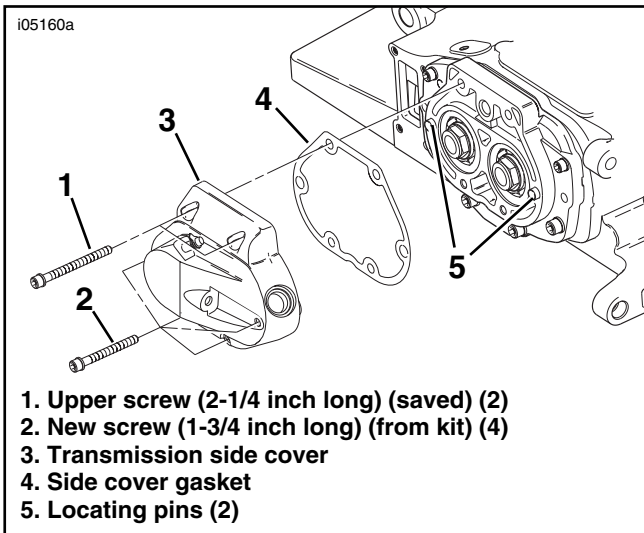

Figure 6. New Transmission Side Cover Installation
- Refer to Figure 6. Place the **new** cover gasket from the kit over the hollow locating pins (5) in the transmission housing. Line up the **new** transmission side cover assembly (which includes the secondary actuator [slave] cylinder and bleeder screw) on the locating pins.